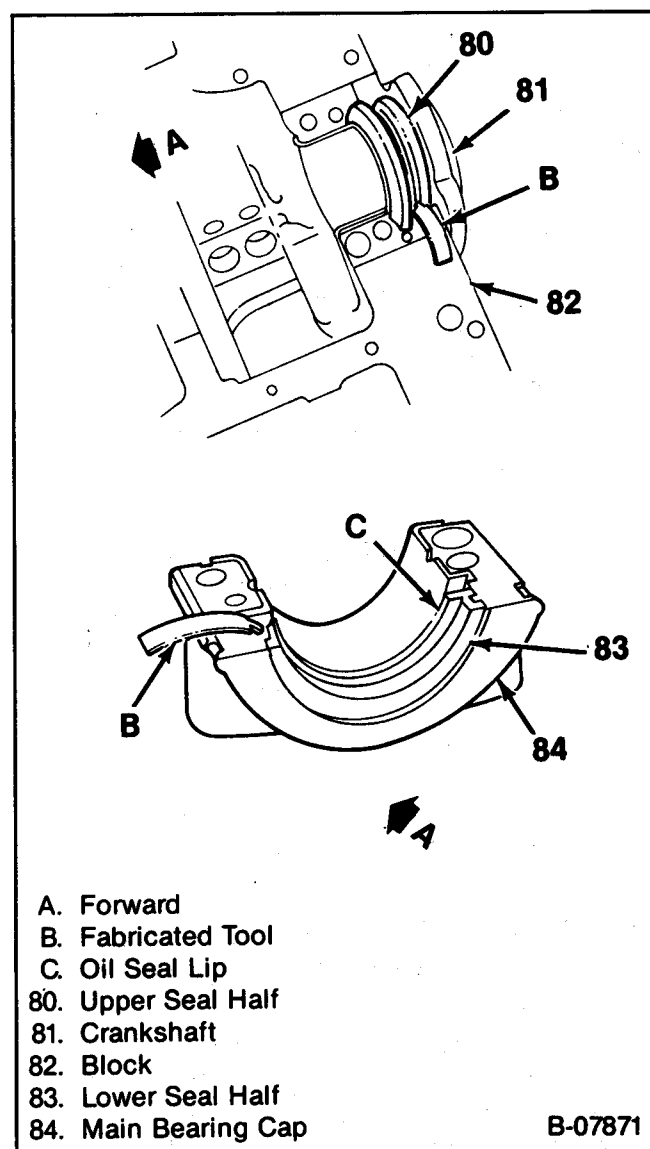

Figure 21—Installing The Rear Crankshaft Oil Seal
- Position the tip of the tool between the crankshaft and the seal seat in the block (figure 21).
- Insert the seal half into the rear main bearing cap. Use the tool to protect the seal half from the sharp edge of the seal seat. Feed the seal half into the rear main bearing cap, using light finger pressure. Make sure the oil seal lip faces the front of the engine (figure 21).